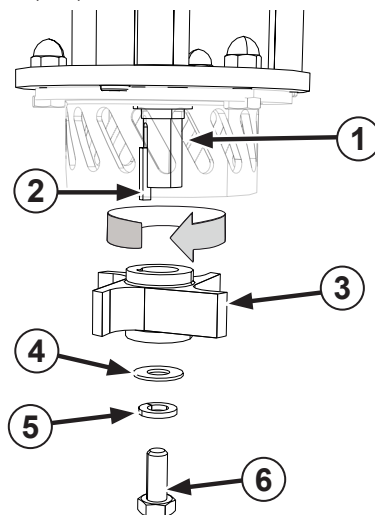

Figure 11. Impeller Rotor
NOTE: It is important to install the impeller rotor in a specific orientation, see rotation in Figure 11. Impeller Rotor below.
1. Install the key (2) into the keyseat on the shaft (1)
2. Noting the specific orientation, see rotation in Figure 11. Impeller Rotor. Align the key to the keyway on the impeller rotor (3) and install to the shaft.
3. Secure with a flat washer (4), split washer (5), and cap screw (6) and tighten to specification. See "Information Tables" on page 44.